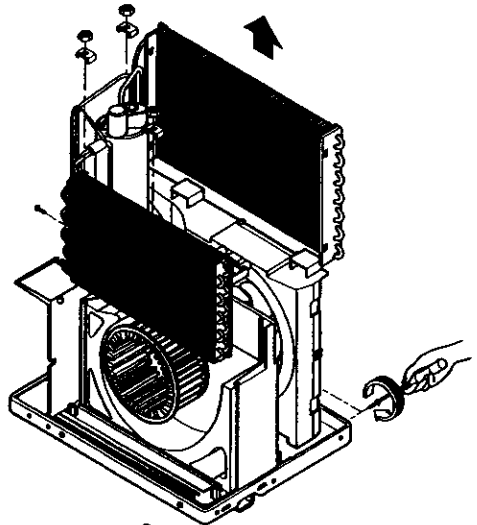

Figure 8
(See Figure 8)
10. Lift the compressor upward with the evaporator and condenser. (See Figure 8)